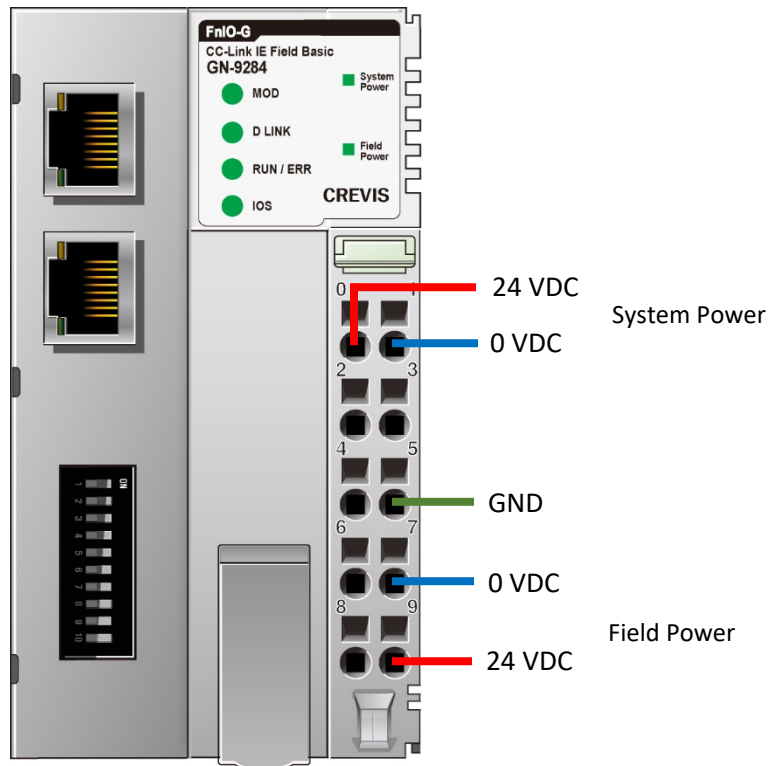

Figure 3.1: Adaptor Power Connections
3.1 Wire the system and field power as in Figure 3.1.